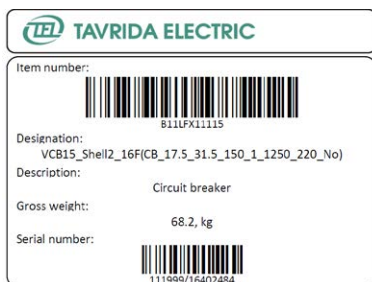

Figure 15
- labels for manufacturers and product information (Figure 15);